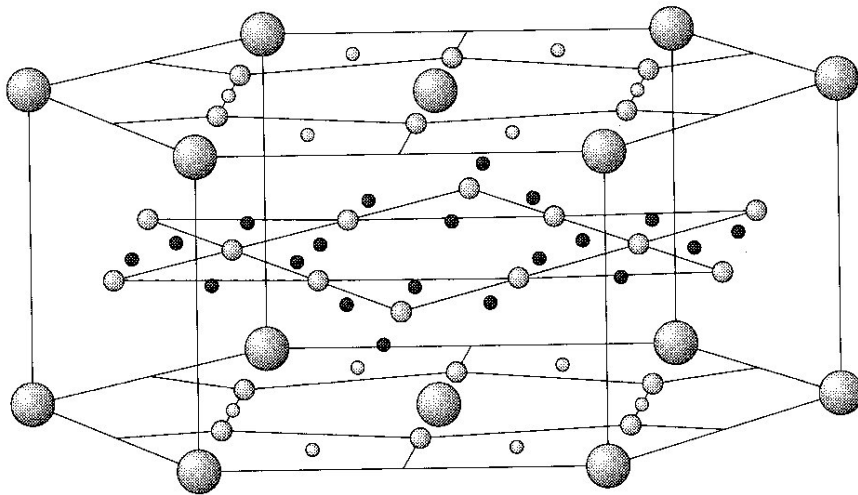

Figure 1.
- By careful selection of the alloy constituents and proportions, the thermodynamics could be balanced to permit the absorption and release process to proceed at room temperatures and pressures. The general result is shown schematically in figure 1 where the much smaller hydrogen atom is shown absorbed into the interstices of a bimetallic alloy crystal structure